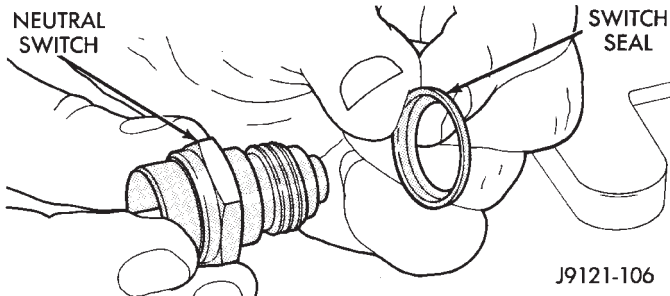

Fig. 185 Park/Neutral Position Switch Seal Position
(56) Install seal on park/neutral position switch (Fig. 185). Then install and tighten switch to 34 N·m (25 ft. lbs.).